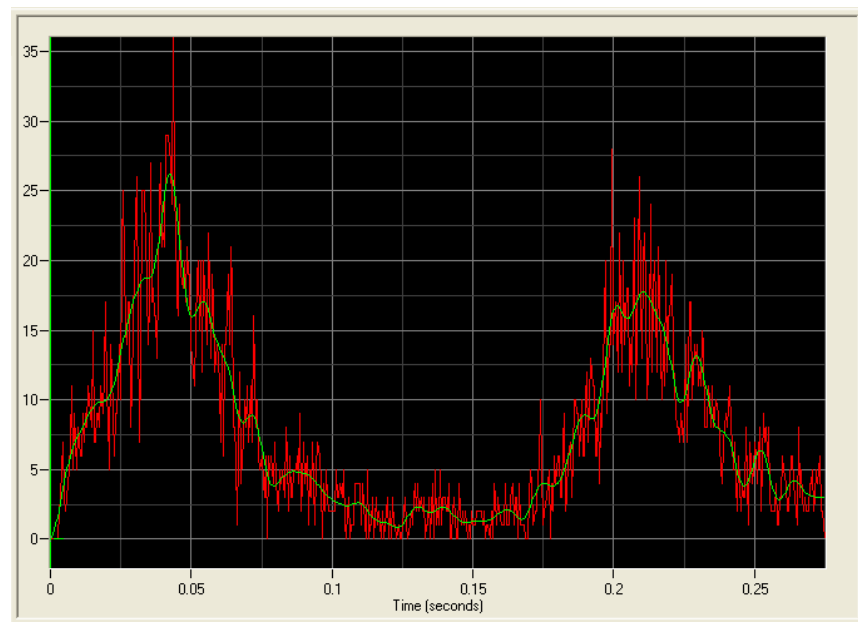

Figure 15
18. You should now see a visually less confusing plot of both the raw and filtered graph data (Figure 15).